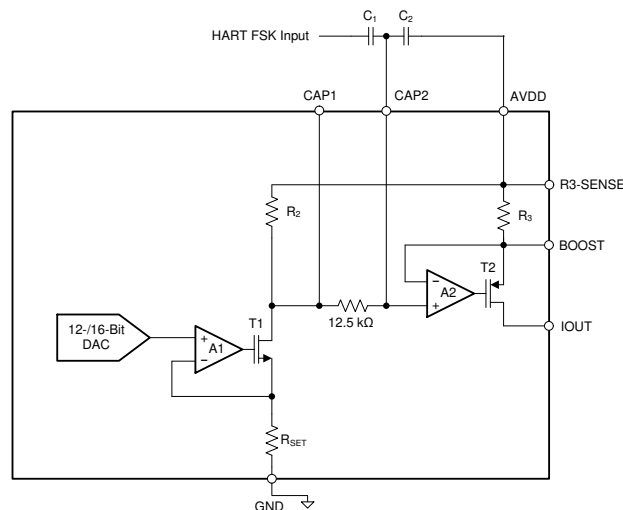

图 9-1. Implementing HART on IOUT Using the CAP2 Pin
The first method to implement HART is to couple the signal through the CAP2 pin, as shown in 图 9-1.
In 图 9-1, R_3 is nominally $40\ \Omega$, and R_2 depends on the current output range (set by the RANGE bits), described as follows:
When the input HART frequency is greater than the 3-dB frequency, the ac signal is seen at the plus input of amplifier A2, and is therefore seen across the $40\text{-}\Omega$ resistor. To generate a 1-mA signal on the output therefore requires a 40-mV peak-to-peak signal on CAP2. Most HART modems do not output a 40-mV signal; therefore, a capacitive divider is used in 图 9-1 to attenuate the FSK signal from the modem. In 图 9-1, the high-pass cutoff frequency is $1 / (2 \times \pi \times [R_2 + 12.5\ \text{k}\Omega] \times [C_1 + C_2])$. There is one disadvantage to this approach: if the AVDD supply is not clean, any ripple on the supply could couple into the device.
- As illustrated in 图 9-1, CAP2 is directly connected to the input of the final IOUT amplifier. Any noise or unwanted ac signal routed near the CAP1 and CAP2 pins could capacitively couple onto internal nodes and affect IOUT. Therefore, make sure to avoid routing any digital or HART signal traces over the CAP1 and CAP2 traces.